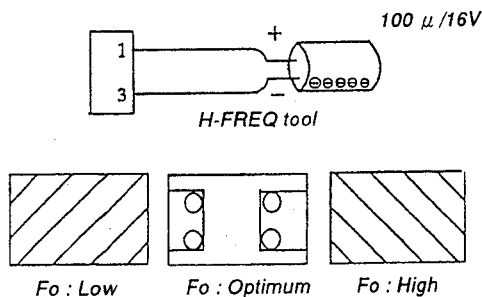

Fig. 1
5. Adjust **60H-FREQ** so that the diagonal lines on the screen become vertical lines. (Fig. 1)
7. Adjust **50H-FREQ** so that the diagonal lines on the screen become vertical lines. (Fig. 1)